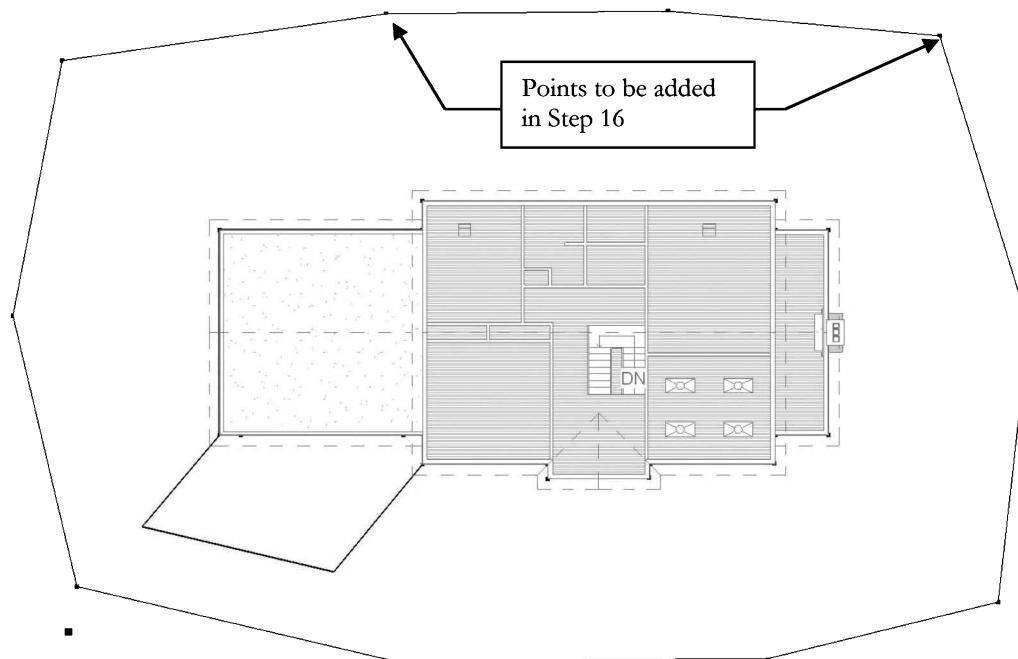

FIGURE 14-1.10 Site plan view – 10 points to be selected (elev – 2'-6")
16. Set the **Elevation** to **-2'-6"** and select the ten points shown in Figure 14-1.10 which will define the extents of the toposurface.